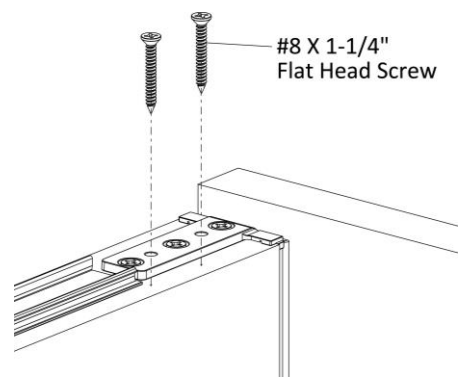

Figure 2
5. Drive two #8 X 1-1/4" Flat Head Screws through the holes in the gallery panel top bracket into the standard panel, (Figure 2).